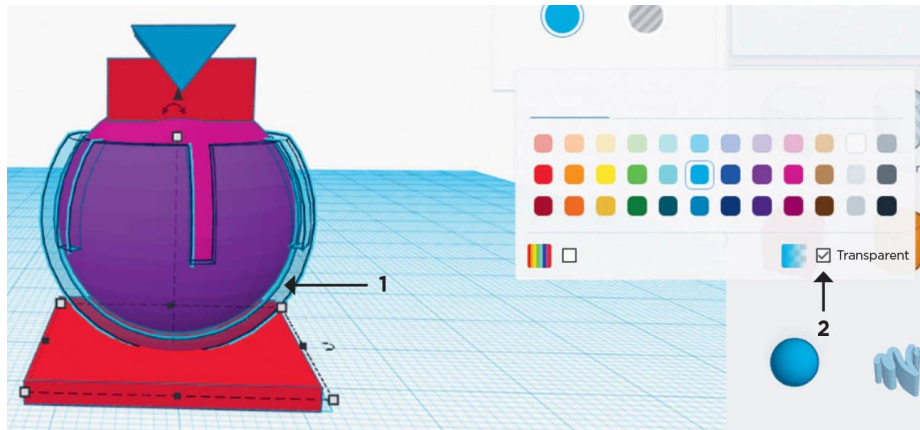

FIG. 1: Convert the socket part of the ball joint to transparent.
1. We start off by first lining up the slotted socket section and ball section from the previous Lab. Convert the socket material to **Transparent** (fig. 1, arrow 2) so you can ensure they are lined up correctly—that is, with an equal gap on all sides between the ball and the inside of the socket (fig. 1, arrow 1).